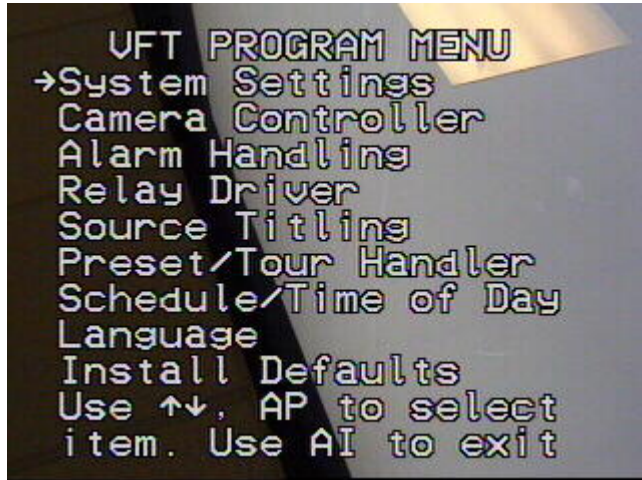

Figure 15
4. Press the PP ENTER key again. The PRESET LED display remains with the number 94 and the monitor displays the SurveyorVFT Main Menu, as shown in Figure 15.